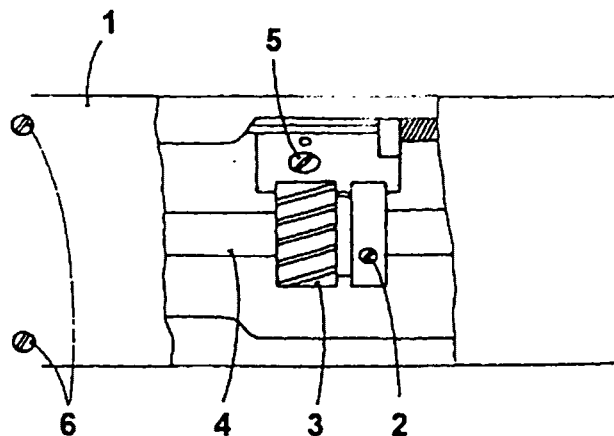
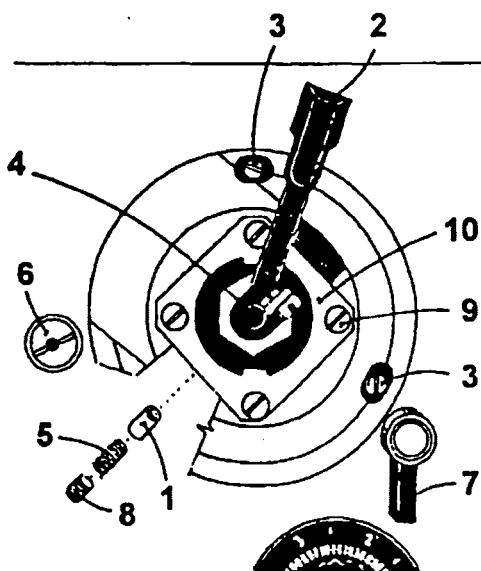
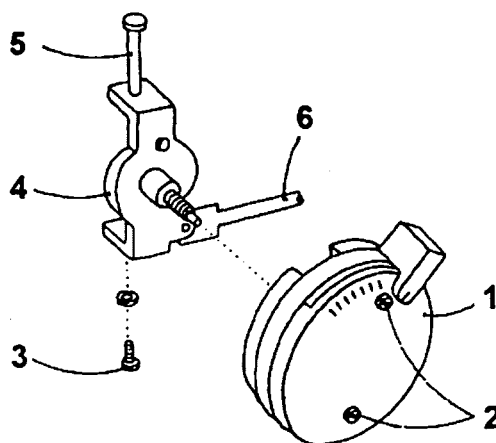

Fig. 11
Fig. 12
Fig. 13
18. To adjust the needle bar lateral movement (Fig. 11)
19. To adjust the control force required for stepless adjustment of the zigzag stitch width (Figs. 12, 13)
For the stepless tilting of the zigzag stitch bracket, the inlay (10, Fig. 12) of the body of the zigzag stitch mechanism contains the braking roller (1) with the spring (5) and with the adjustment screw (8). Turning the screw to the right increases the pressure exerted on the roller and, consequently, the force required to adjust the stitch width. A mechanism actuated by the lever (7) serving to fix the adjusted stitch width must be turned to the left prior to proceeding to the stitch width adjustment which is carried out by the lever (2) whose extreme left position, defined by a stop, produces the zero zigzag stitch width that can be increased up to 10 mm by displacing the lever to the right. The number marking on the cover (1, Fig. 13) shows the approximative stitch width value at each lever position. To adjust the control force, first take the complete zigzag stitch mechanism out of the machine arm column. For this purpose, screw out the two screws (2) from the body of the mechanism, remove the cover (1), screw out the three attachment screws (3, Fig. 12) from the body of the zigzag stitch mechanism, then screw out the securing screw (3, Fig. 13) on the pin (5), remove the pin from the guiding (4), loosen the fixing lever (7, Fig. 12) and take the pin (6, Fig. 13) out of engagement, thus releasing the body of the zigzag stitch mechanism that can be then taken out of the machine arm. For the assembly, proceed inversely.
20. To adjust the tooth play of the zigzag transmission mechanism (Figs. 11, 12)
The tooth play of the zigzag stitch transmission mechanism is actuated by the eccentric pin (6, Fig. 12). To adjust the tooth play, first screw out the four attachment screws (6, Fig. 11), remove the upper cover (1), and loosen the screw (5) located in the lug of the machine arm. By turning then the eccentric pin (6, Fig. 12) adjust the tooth play of the zigzag transmission mechanism, i. e., between the complete cam and the gear wheel (3, Fig. 11) mounted on the upper shaft (4), then lock the adjusted position by throughly tightening the screw (5).